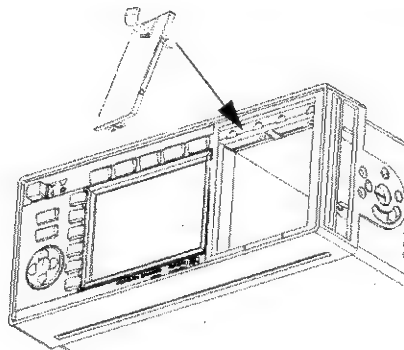

Figure 162 Fitting a Blind Panel
- 1 Position the blind panel as shown in Figure 162. Position the end closest to the handle against the bottom edge of the slot.